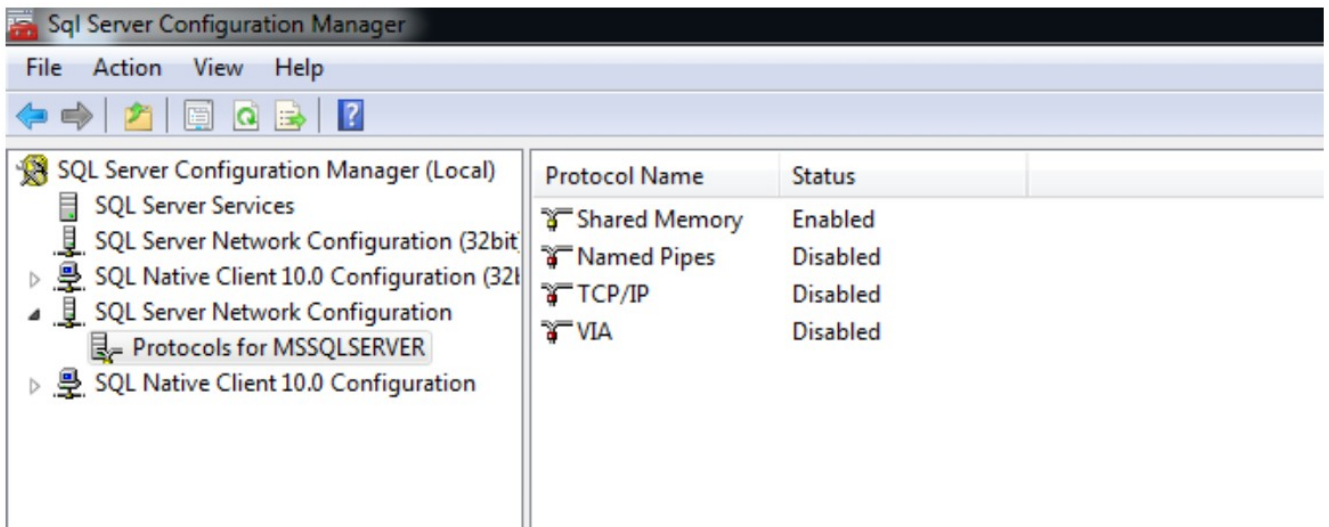
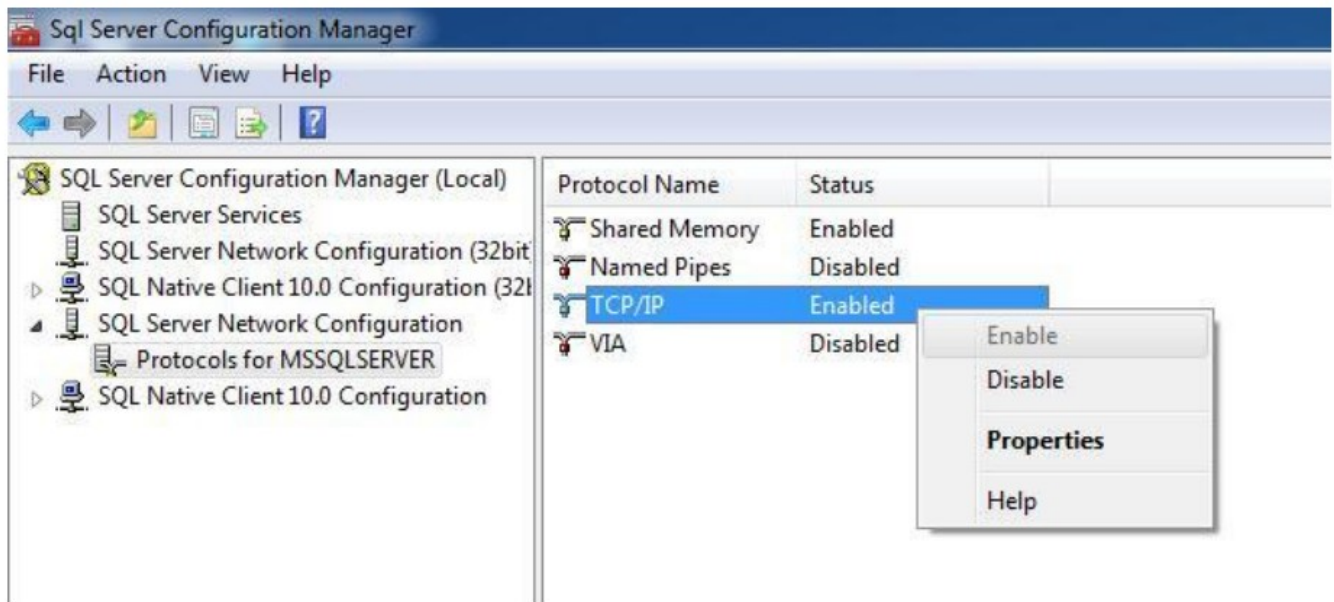

Fig.1.10 SQL Server Configuration Manager
Fig.1.11 SQL Server Configuration Manager
**Step Ten:** Choose “Protocols for MSSQLSERVER” under the node of SQL Server Network Configuration on the left. The default status of TCP/IP is Disabled (see Fig.1.10). Please set status of TCP/IP as “Enable” by right click or opening TCP/IP Properties interface by double click (see Fig1.11), then modify “active” to “yes”, click “OK” button.